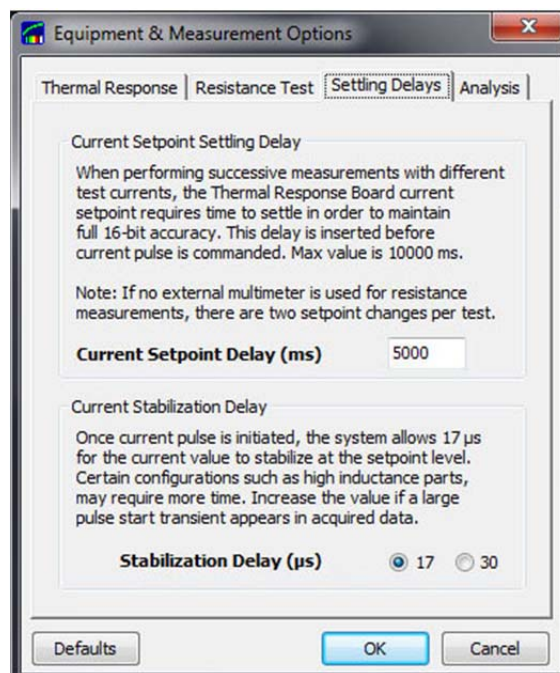

Figure 14: Settling and Stabilization Delays
1. The selected testing parameters are transferred to the thermal transient circuitry prior to each test. When changing from one current value, such as when using the thermal transient board for resistance test (from 10mA to the value selected for thermal test), the internal reference takes several few seconds to settle to 16-bit accuracy. This settling delay may be adjusted with the “Current Setpoint Delay” parameter (Fig. 14, top). Values of 3000ms to 5000ms are typical, where longer times provide slightly greater accuracy. The delay is applied when the current setpoint changes, and is, for example, twice per test if a multimeter is not used for resistance test.